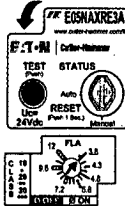

Figure 1
- A. Open cover (see Figure 1).
- F. Manual Reset (see Figure 1)
- A. Open the cover (see Figure 1).